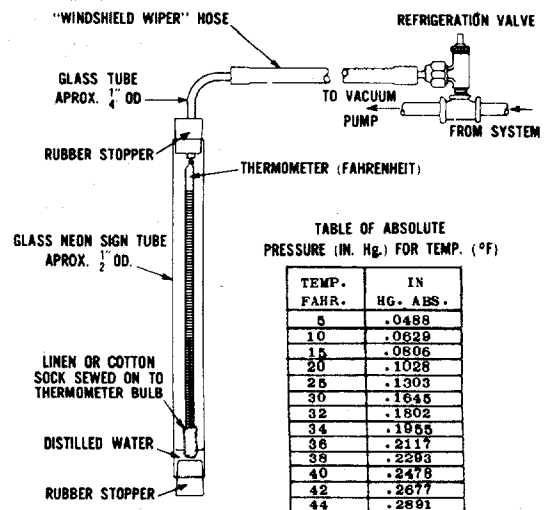

FIG. 3 Vacuum Dehydration Indicator.
12. Never, under any circumstances, should the compressor be used for evacuating the system. It is not designed or intended for this use and if used for this purpose, serious damage will result. Rather, an auxiliary pump vacuum capable of pulling an almost perfect vacuum must be used. The vacuum pump along with a reliable vacuum dehydration indicator should be connected to both the back-seat port of the compressor suction valve and the back-seat port of the compressor discharge valve, as illustrated in Figure 3. This will insure that the system on both sides of the thermostatic expansion is evacuated.
A vacuum indicator may be constructed similar to that shown in Figure 3. This is known as a wet bulb indicator. (Vacuum gauges of the dial type are usually not calibrated accurately enough nor divided into fine enough increments.)